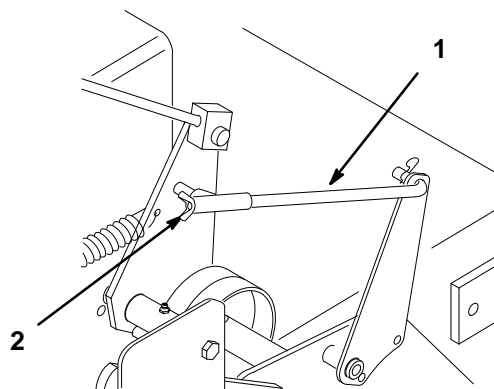

Figure 38
3. To adjust brake set the parking brake latch, and rotate the wing nuts on the brake rods (Fig. 38). Clockwise to tighten the brake and counterclockwise to loosen the brake.